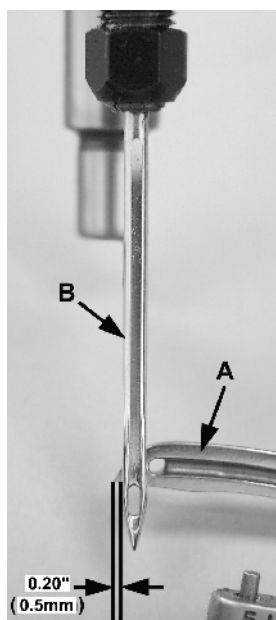
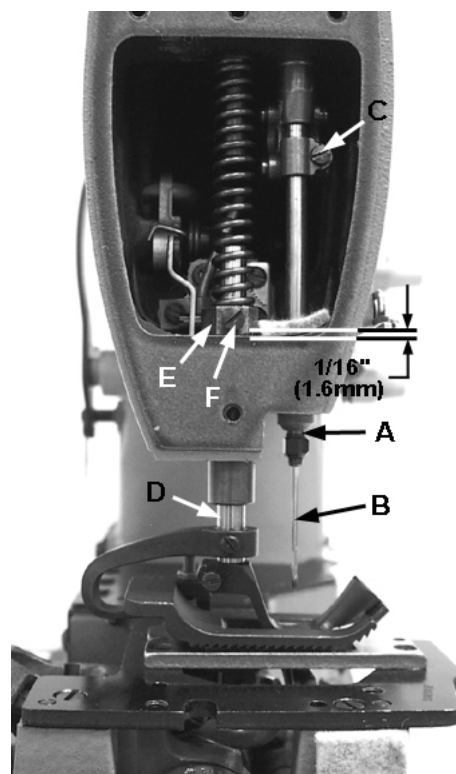

Fig 8
Fig 15
Turn handwheel to position point of looper (A, Fig. 8) 0.20" (0.5mm) past the left side of needle (B). At this time the top of the eye of the needle (B) should be even with the under side of the looper (A). To make adjustment, loosen screw (C, Fig. 15) and move needle bar (A) up or down as required.
Height of presser bar (D, Fig. 15) is set correctly if it is possible to remove the presser foot when the foot lifter lever, located at the back of the machine and extending above the upper crank chamber cover is fully actuated (pulled to the right). There should be approximately 1/16 inch (1.6mm) clearance between lower surface of the presser bar connection and guide (E) and bottom surface of head opening in the bed when foot lifter lever is released and presser foot lying flat on the throat plate with feed dog below throat plate.